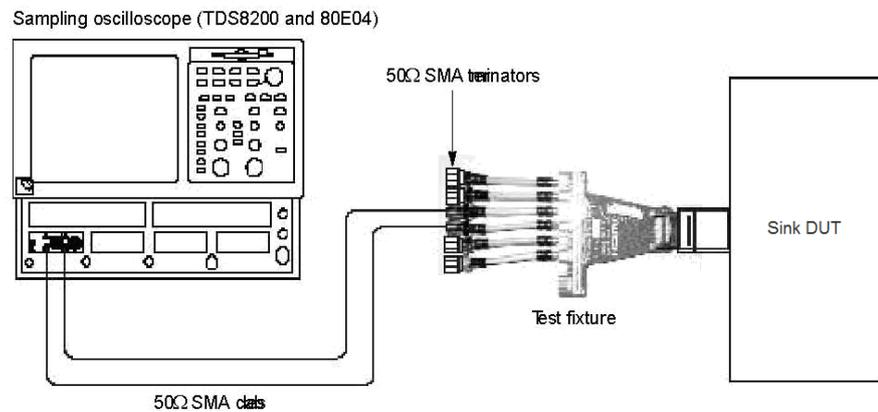

Figure 17 Connecting a Sink DUT to the test fixture
5. Connect the test fixture to the HDMI connector on a DUT (see Figure 17).
- e. Connect the test fixture to the HDMI connector on a device under test (DUT) (see Figure 17).
1. Connect the test fixture to the HDMI connector on a DUT (see Figure 17).